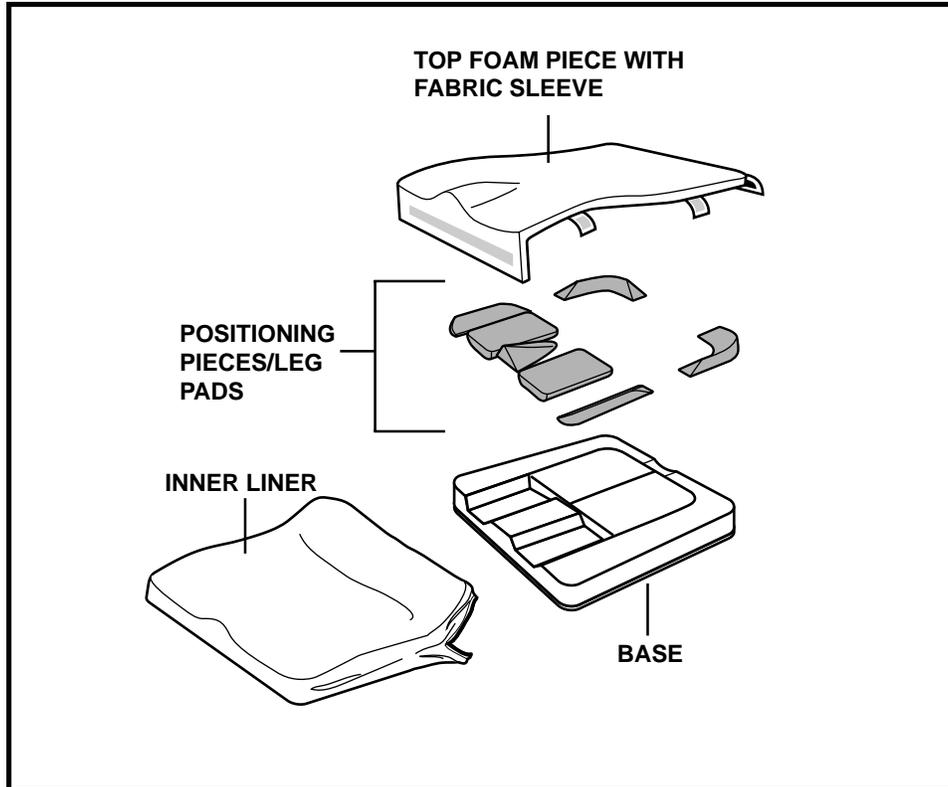

Figure 3. The Structure Cushion, Disassembled (Outer Cover Not Shown)
1. Place the positioning pieces and leg pads on the base as needed for maximum therapeutic advantage. See figure 3.
2. Attach the top foam piece in the fabric sleeve to the front of the base, then to the rear of the base. See figure 3.
3. Secure the sides of the top foam piece with the tabs on the fabric sleeve. See figure 3.